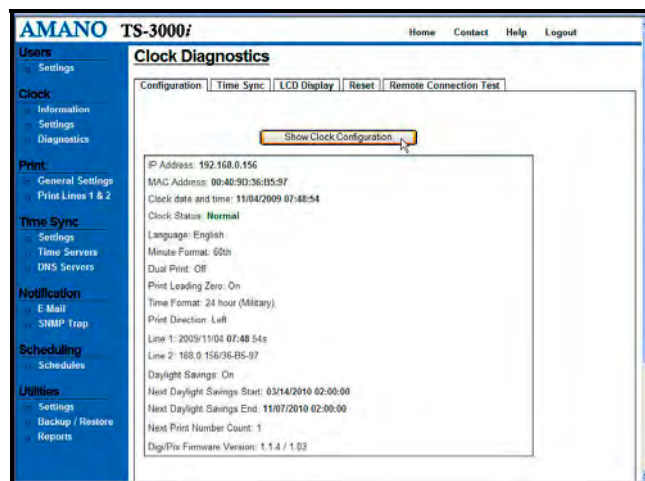

Figure 7-1. Show Clock Configuration.
Step 2. Click on the **Show Clock Configuration** button to display the Web clock configuration information (see *Figure 7-1*).
Note – This information is read only (non-editable) and displays the clock settings, plus the current status of the clock. Any clock errors such as **E4** **Prt** printing error would appear in **red** on this screen (see *Figure 7-1*).